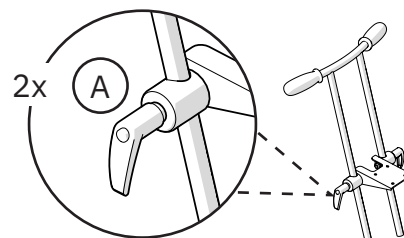

Figure 5.11. Clinic push handle.
The height and angle (A) of the push handle can be adjusted, see Figure 5.11.